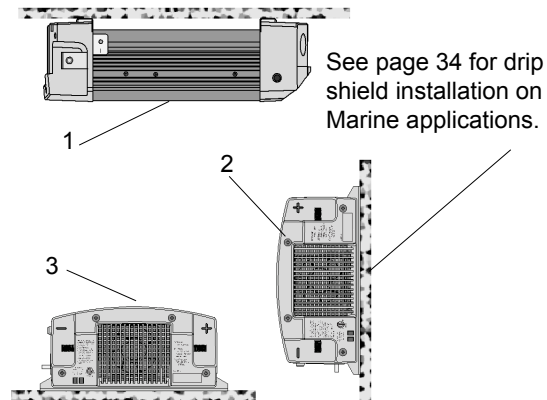

Figure 3 Approved Mounting Orientations
2. Select an appropriate mounting location and orientation. (See Figure 3 below.) To meet regulatory requirements, for use in on-land applications, the Freedom HF must be mounted in one of the following orientations: